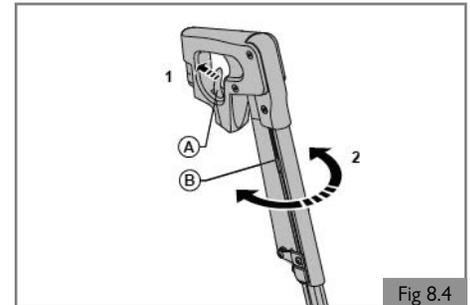

Fig 8.4
8.3 Swing away legrests (Fig. 8.4)